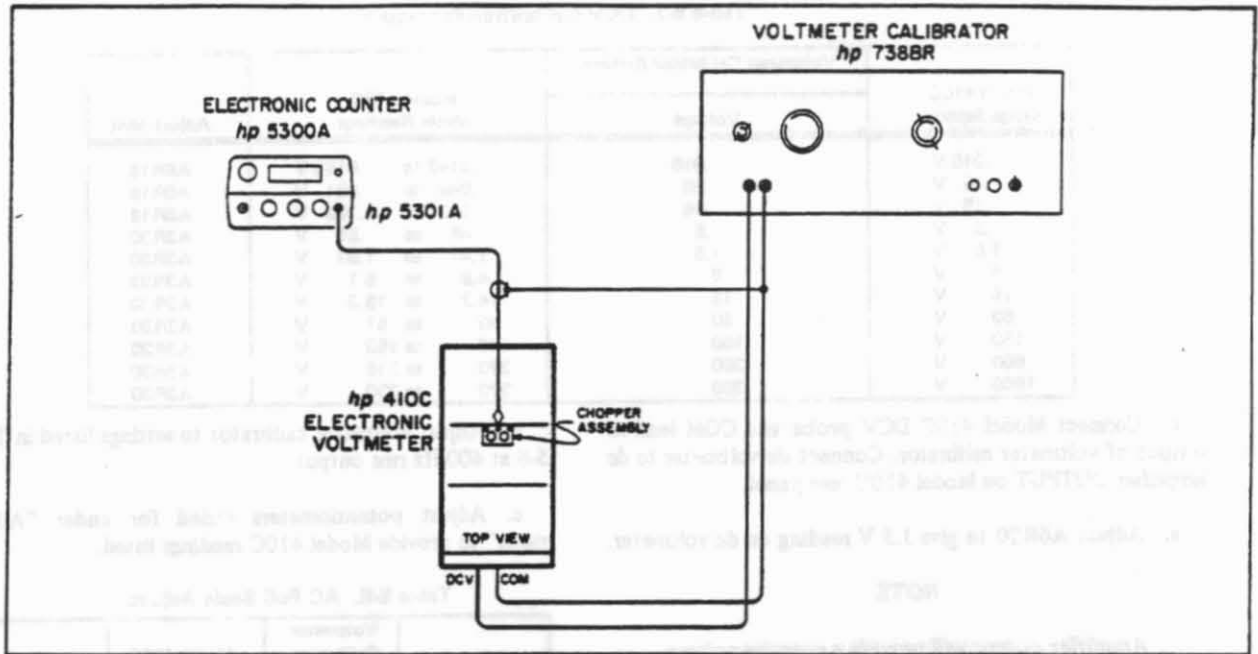

Figure 5-6. Chopper Frequency Adjust Setup.
c. Connect Model 410C, electronic counter, and voltmeter calibrator as shown in Figure 5-6.